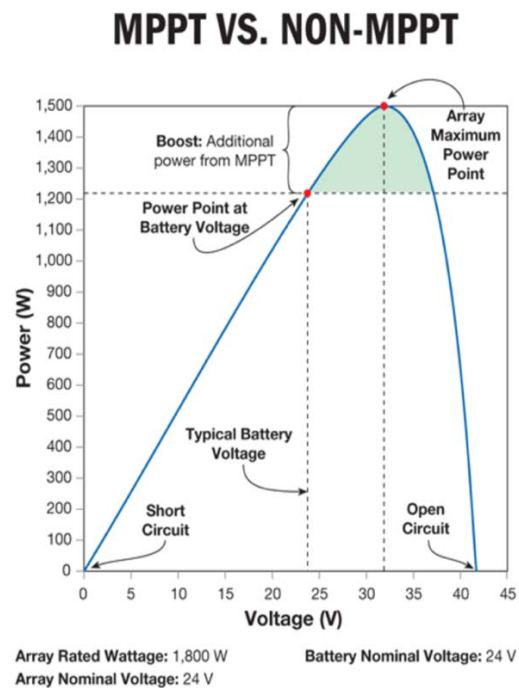

Figure 2: MPPT performance match between the solar panel and the battery [2]
2. Figure 2: MPPT performance match between the solar panel and the battery
The maximum power point tracker (MPPT) is a device which converts power from DC to DC then ensures the support of the performance match between the solar panel voltage and the battery bank voltage. Therefore, the MPPT charge controller steps down high-power voltage from the solar panel to low voltage needed to charge a battery. This is illustrated in figure 2.